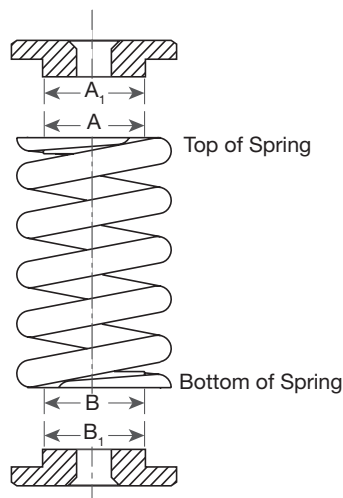

Figure 37: Spring Allowed Tolerance
- The maximum clearance between A and A_1 and between B and B_1 (see Figure 37) is more than:
- .031" (.79 mm) for springs with an inner diameter (ID) of less than 4" (100 mm).